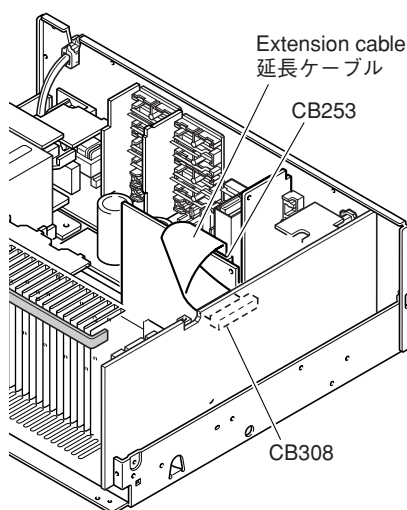

Fig. 9
- c. Replace the flexible flat cable connecting CB253 of MAIN (3) P.C.B. and CB308 or FUNCTION (1) P.C.B. with the extension cable specified below. (Fig. 9)
- c. MAIN (3) P.C.B.のCB253とFUNCTION (1) P.C.B.のCB308を接続するFLEXIBLE FLAT CABLEを、下記のサービス用延長ケーブルに交換します。(Fig. 9)